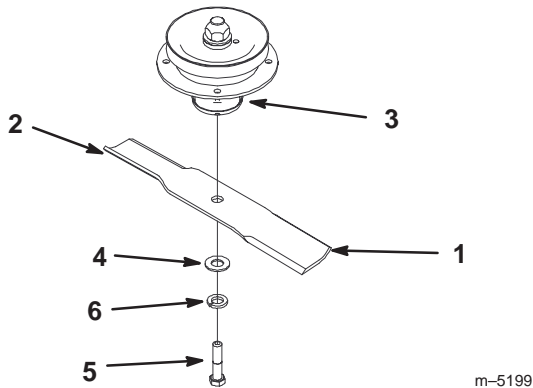
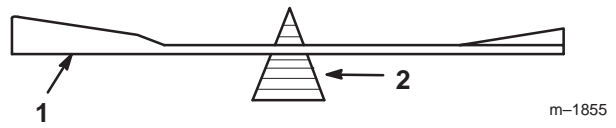

Figure 42
Figure 44
1. Hold the blade end using a rag or thickly-padded glove. Remove the blade bolt, lock washer, washer and blade from the spindle shaft (Fig. 42).
2. Check the balance of the blade by putting it on a blade balancer (Fig. 44). If the blade stays in a horizontal position, the blade is balanced and can be used. If the blade is not balanced, file some metal off the end of the sail area only (Fig. 42). Repeat this procedure until the blade is balanced.
1. Install the blade onto the spindle shaft (Fig. 42).
Important The sail part of the blade must be pointing upward, toward the inside of the mower to ensure proper cutting (Fig. 42).
2. Install the washer, lock washer and blade bolt (Fig. 42). Torque the blade bolt to 85–110 ft-lb (115–140 N•m).